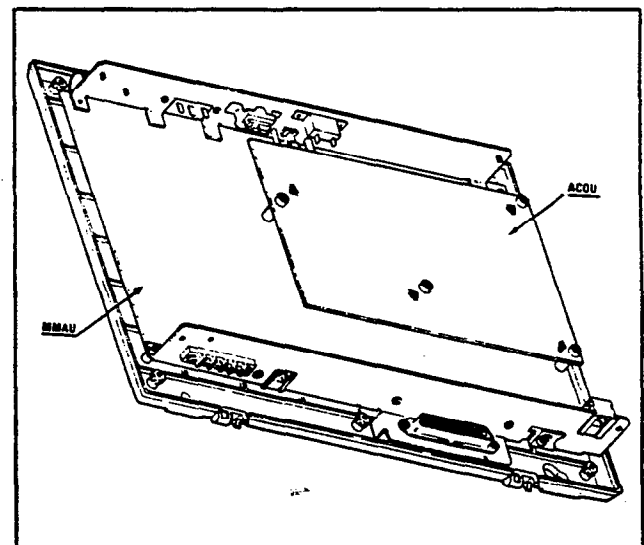

FIGURE 3—MKSU (Internal)
02.04 The MMAU PCB is secured to the cabinet base (Figure 3). The ACOU is attached to the MMAU with four screws, and is connected to it via four 10-pin connectors.